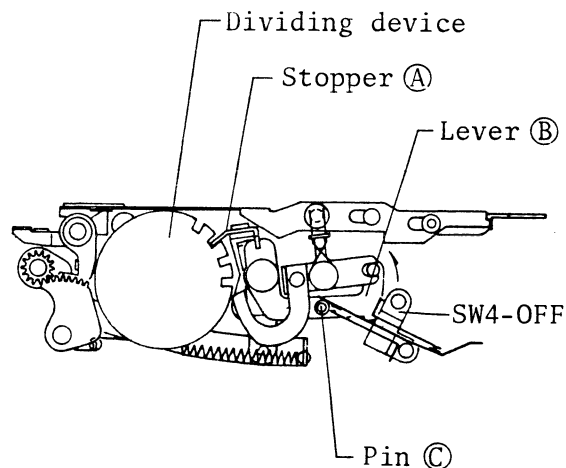

Fig.6
When the stopper ① gets into slot of the dividing device, the lever ② moves in direction shown by the arrow in Fig. 6 so that the SW4 is turned off by means of the pin ③ on the lever ②.